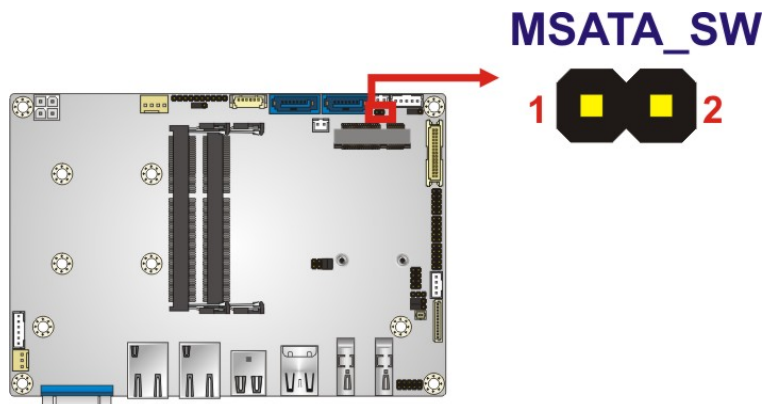

Figure 4-7: mSATA Auto-detect Jumper Location
- Jumper Location:** See Figure 4-7